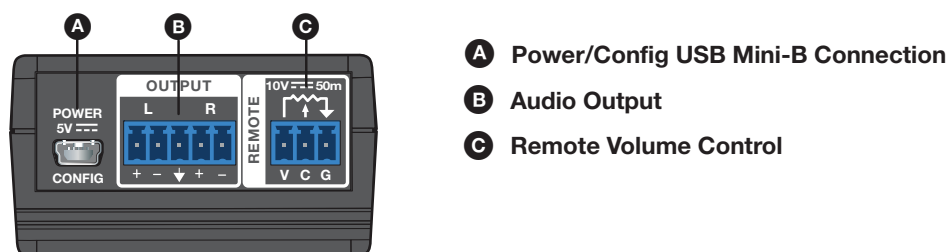

Figure 2. DAC 102 Rear Panel
3. **Connect to the 5-pole, 3.5 mm captive screw connection** output of the DAC 102 to an audio amplifier or audio processor (see figure 2, B).
4. **Connect a volume controller (such as a compatible VCM and MLC analog volume controller)** to the one female 3-pole, 3.5 mm blue captive screw connector for remote volume control (see figure 2, C on page 5).
5. **Connect power** (see figure 2, A on page 5) **to the decoder** by connecting the included USB A to USB mini-B cable to the rear female USB mini-B connection. The mini USB port allows the audio decoder to be powered from a 5 V USB power source.
To configure the unit, connect your computer to the POWER/CONFIG USB mini B female connection (see figure 2, A on page 5). Use Product Configuration Software (PCS) or Simple Instruction Set (SIS) to adjust settings.
The DAC 102 decoder can be remotely set up and controlled via Extron SIS commands issued from a computer or control system via USB from the computer USB port to the rear panel Power/Configuration port (see figure 2 on page 5).